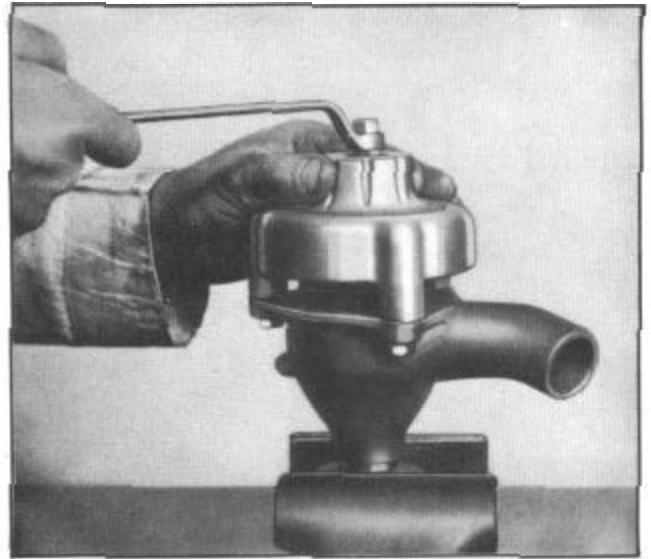

Figure 6--Cutting Burr from Shaft
5. Insert the cutter (No.3) into the thumb screw (No.2) and then assemble them into the body (No.1) as illustrated in Figure 6.